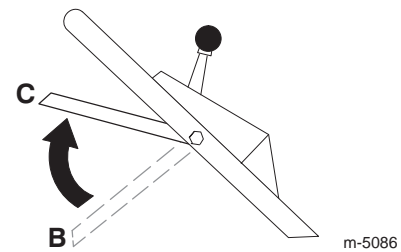

Figure 18
- Bring the blade control bail up into the middle position about 5 inches (12.7 cm) below the handle cross bar (Position **C** in Fig. 18).
- Release the blade control bail (Position **B** in Fig. 18).